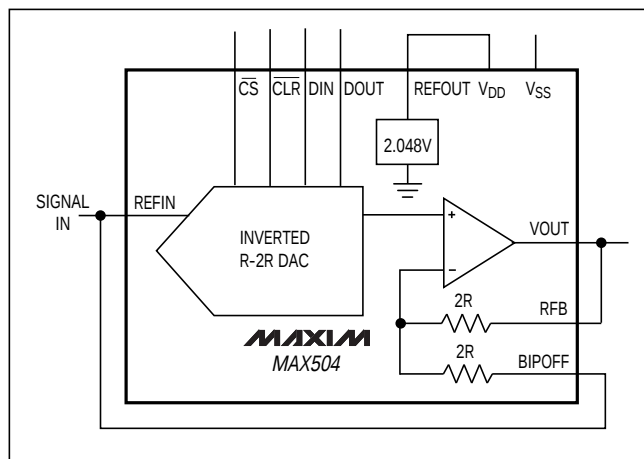

Figure 9. MAX504 Connected as Four-Quadrant Multiplier. The unused REFOUT is connected to VDD.
The MAX504 can be used as a four-quadrant multiplier by connecting BIPOFF to REF pin and RFB to VOUT, and using (1) an offset binary digital code, (2) bipolar power supplies, and (3) a bipolar analog input at REF pin within the range $V_{SS} + 2V$ to $V_{DD} - 2V$, as shown in Figure 9.